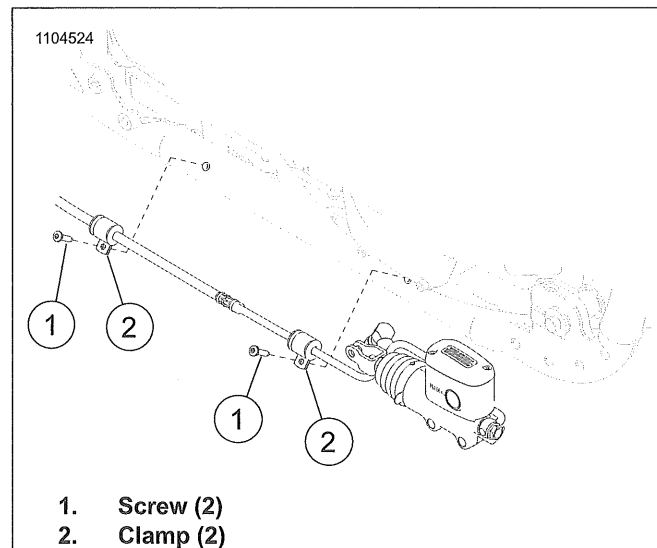
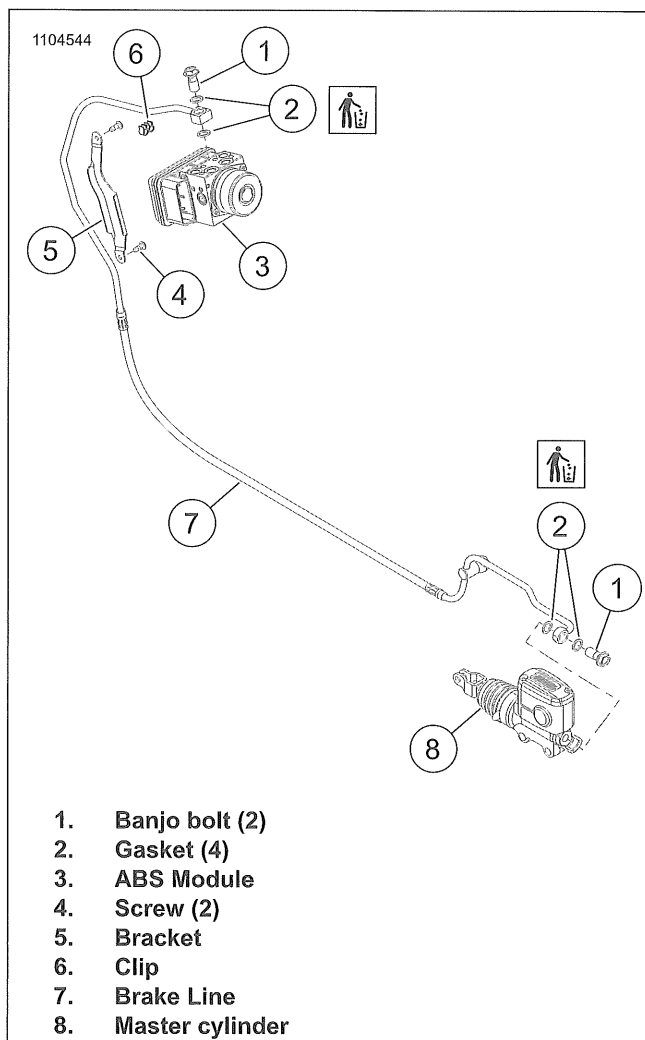

Figure 3-60. Brake Line Clamp
Figure 3-61. Master Cylinder Brake Line
1. See Figure 3-60. Remove clamps.
- a. Remove screw (1).
- b. Remove clamp (2).
2. See Figure 3-61. Remove screws (4).
3. Remove bracket (5).
4. Remove banjo bolt (1) and gaskets (2) from master cylinder.
5. Remove banjo bolt (1) and gaskets (2) from ABS module.
6. Discard gaskets (2)
7. Remove brake line from clip (6).
8. Remove brake line (7).
1. See Figure 3-61. Route brake line (7).
6. Attach brake line to clip (6).
7. See Figure 3-60. Install clamp.
- a. Install clamp (2).
- b. Install screw (1). Tighten.